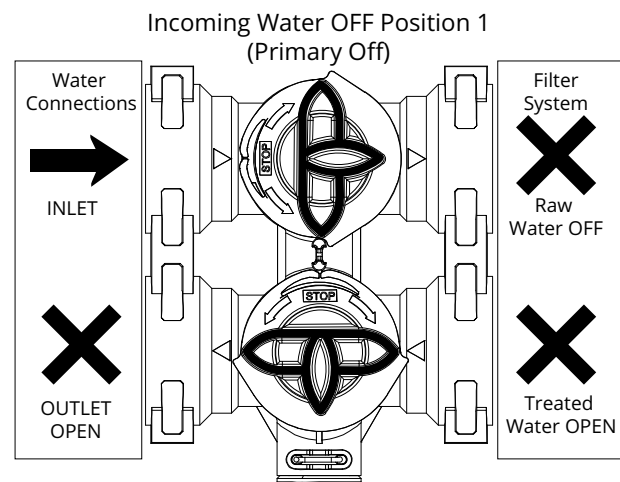

FIGURE 2
7. With OptiPure Multi-Function Valve set in the off position (See Figure 2 on page 10), slowly open the full-flow ball valve at the water source.
4. Turn Multi-Function Valve to the Off Position. (See Figure 2 on page 10.)
1. On Multi-Function Valve Turn Upper handle to the OFF Position. (See figure 2 on page 10)